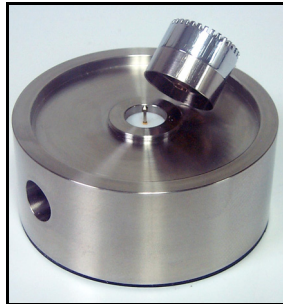

FIGURE 5-18 2575 Microphone and AEC100
Step 5 Install the 1" microphone (LD Model 2575 or equivalent) on the center of the artificial ear base. The microphone should install easily: screw it finger tight (FIGURE 5-18).